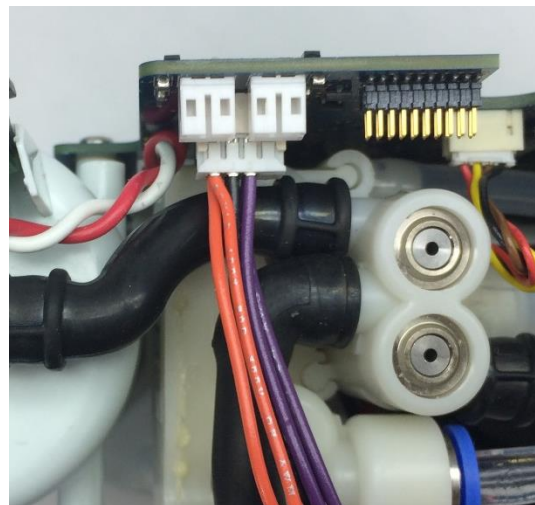

Figure 7: Product Manifold Harness
6. Connect the Product Manifold harness and the Feed Waste Manifold harnesses (Figure 7 and 6.)